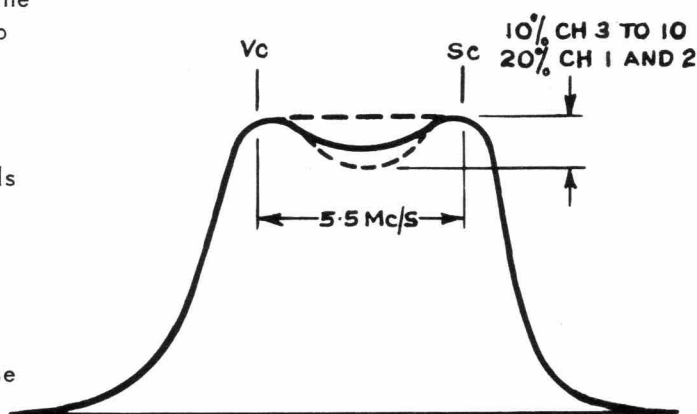

Fig. 16
7. Adjust the sweep generator to display the overall IF response curve and set the signal generator to note the response at the desired frequencies as seen in Fig. 16.
8. Correct the response if necessary by retouching the composite IF tuning cores to obtain a response within the limits shown in Fig. 16.
6. Adjust the two RF trimmers C1 and C7 and the converter trimmer C12 (all located on the top of the RF tuner) for the curve as shown in Fig. 16 with maximum gain.
7. Adjust the sweep and signal generators progressively for each of the remaining channels 10, 8, 7 etc. Observe the response and check the position of the markers. The curves for all channels should be within the limits shown by the curves in Fig. 16. If a particular channel does not fall within these limits, it is possible that a compromise can be made by adjusting the RF and converter trimmers as in steps 4, 5 and 6 to improve the channel that is out of limits. The response should then be checked on all other channels to determine the extent to which the other channels were affected by the compromise. (If this method proves unsatisfactory, the tuner should be returned to the factory for attention).